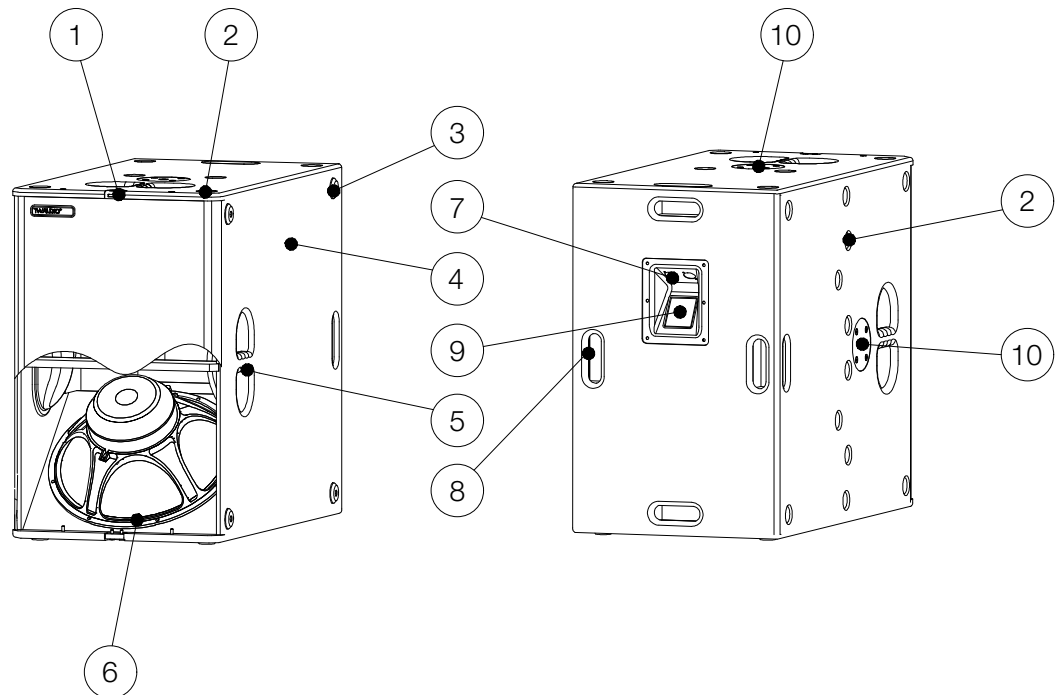

Figure 2.1 - Overview
Make sure that the maximum load of 50kg / 110lbs for the M20 pole mount flange is not exceeded! Figure 2.1 – Item 2.
The M20 pole mount flange (figure 2.1- item 2) is not designed for side forces once mounted – do not apply any pressure from the sides.
Please note that only centered loads are allowed to be placed on the M20 pole mount flange – Figure 2.1 – Item 2.
Make sure that the existing millings for rubberfeets (Pos.2 - figure 2.1) are used for a safe stacking of the loudspeakers.